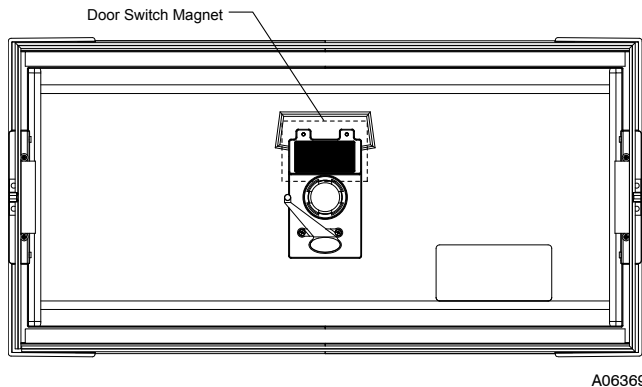

Fig. 12 - Door Switch Magnet
- a. Attach the Perfect Air Air Purifier door to the cabinet. A magnet in the door (see Fig. 12) is used to activate a safety switch in the power supply when the door is installed. The power supply will not energize the air purifier unless the safety switch is activated.